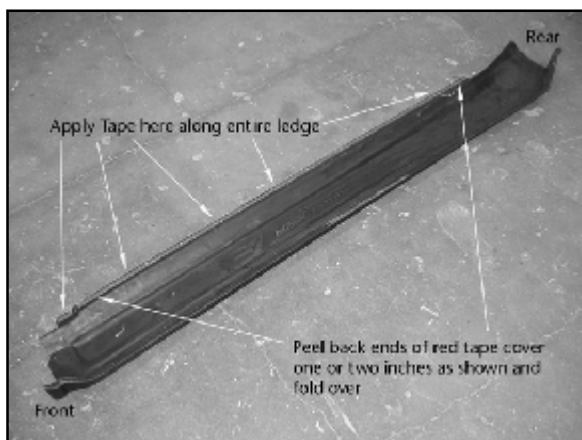

Fig 1(note:11712 shown)
3. Pull up a corner of the end of the red tape backing so that it is visible outside the edge of the part as shown in Fig 1